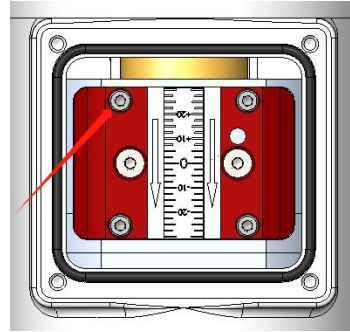

Figure 3.9
2. Remove the four M2.5X8 cylindrical head screws as shown in Figure 3.9; and pull out the collimation lens cartridge for maintenance. Please mind the proper direction of collimation lens when assembling it.